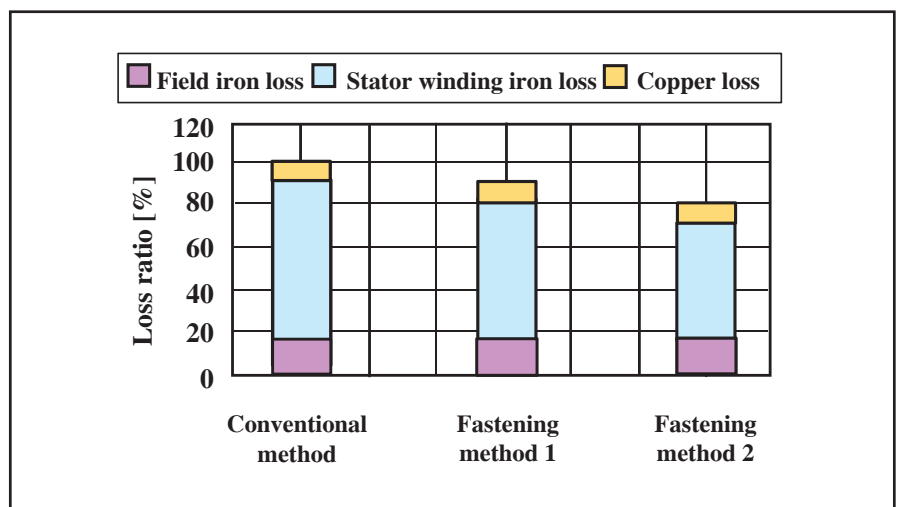

Figure 9—Relation of lamination fastening method and loss.
**Lower iron loss by suitable fastening method.** Figure 9 shows the relationship of the fastening method and loss of the stator core (laminated core), though the stator core is made of the lamination sheets to which insulation coating is given. For now, fastening by dimples is the most common method.
The electrical insulation between the lamination sheets is broken down at the dimples. An eddy current becomes easy to flow due to this dielectric breakdown, and the eddy current loss grows more than the value calculated by Equation 2. Figure 9 shows the relationship of the fastening method and the maximum loss. The loss is different, depending on the fastening method. The low-loss stepping motor has adopted a fastening method with a small loss.